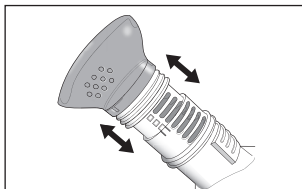

Fig. 7
10. Place the smaller, mouth/nose mask onto the extension tube and adjust the extension tube to the desired height, Fig. 7. The height/length of the tubing will not affect the steam output or treatment time.